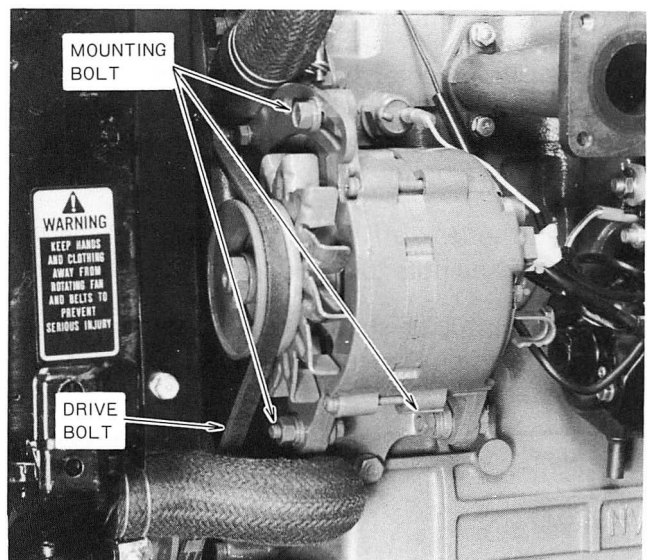

Figure 46 – Alternator Mounting Bolts
1. Loosen the alternator mounting bolts, Figure 46.